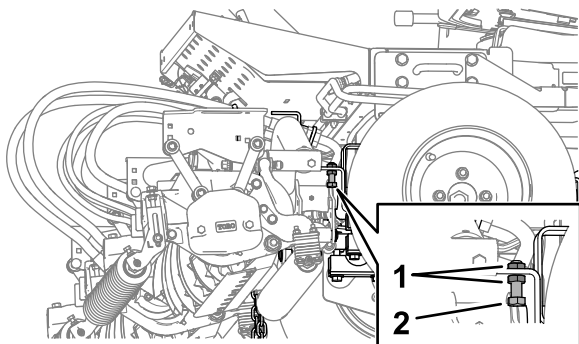

Figure 28
1. At each side of the machine, loosen the jam nuts and back off the lift arm-stop bolts (Figure 28).